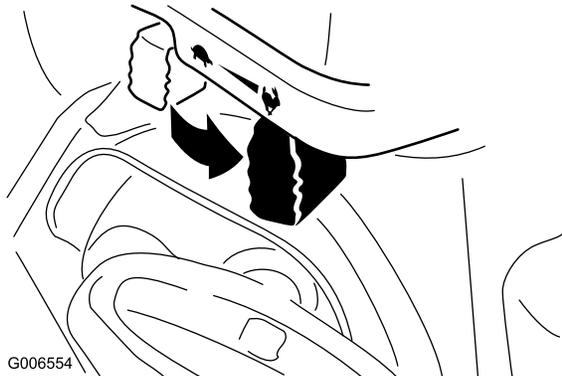

Figure 25
- Move the throttle to the Fast position (Figure 25).